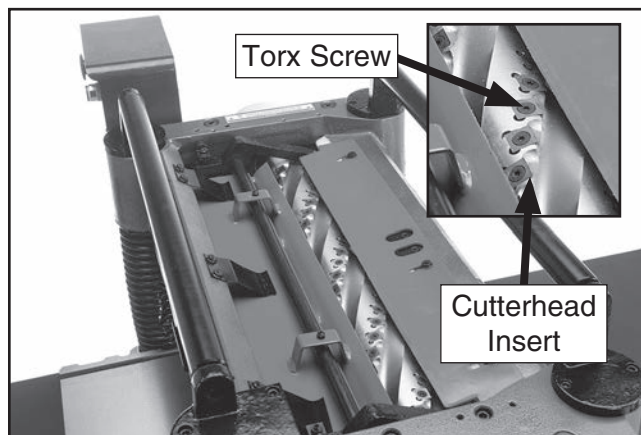

Figure 35. Location of cutterhead inserts and Torx screws.
4. Remove any sawdust or debris from head of insert, Torx screw, and surrounding area (see **Figure 35**).